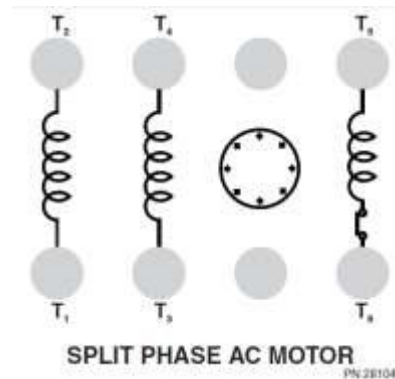

Figure 1: External connector overlay for the Split-phase motor
1. Secure a Machines Training unit, and mount a split-phase motor (See figure 1) to the left side of the training unit. Ask the instructor for help if the machine is too heavy to put into place. If there is a coupling on the motor shaft or not, secure a coupling guard over the unit.
4. Obtain the correct plastic overlay for the external machine connections (left front side) and place it over the banana jacks (See figure 1).